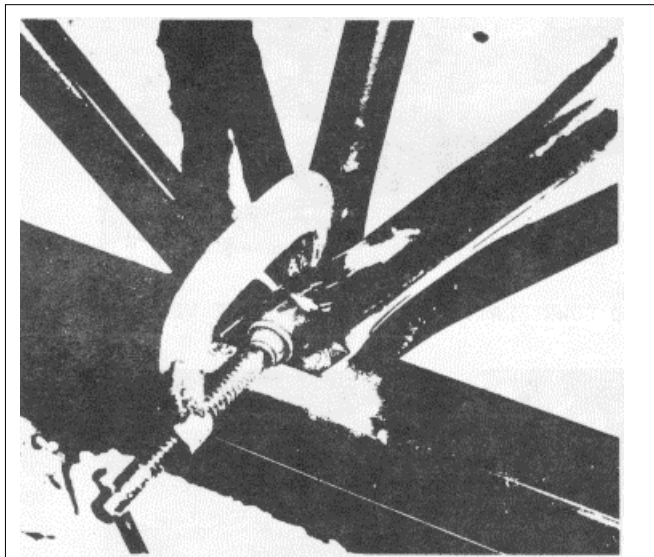

Fig. 17
(6) Align and clamp lattice into position for welding. See Figure 17.